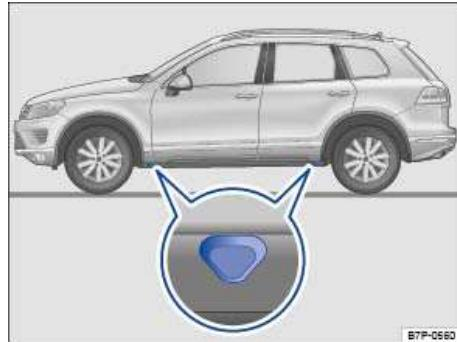

Fig. 338 Lift points for the jack.
The jack must be positioned at one of the 4 lift points marked on the vehicle body (2 on each side as shown in => **fig. 338**). You must use the lift point closest to the wheel being changed => **⚠**.
7. Find the jack lift point => **fig. 338** on the vehicle frame that is closest to the wheel to be changed.
The jack must be positioned at one of the 4 lift points marked on the vehicle body (2 on each side as shown in ⇒ fig. 338). You must use the lift point closest to the wheel being changed [⇒ !\[\]\(aed840ce928deabba8b03fd0481198f4_img.jpg\)](#).